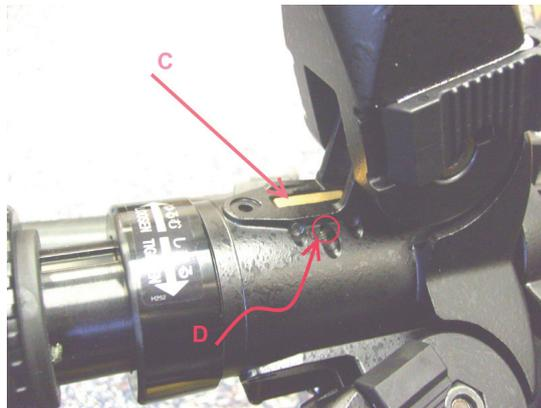

Figure 3
The third mechanism for adjusting the column tension is via a brass guide pin fitted against the main column indicated by C in figure 3.
2. Insert an Allen key into screw recess D in figure 3 and carefully tighten the screw